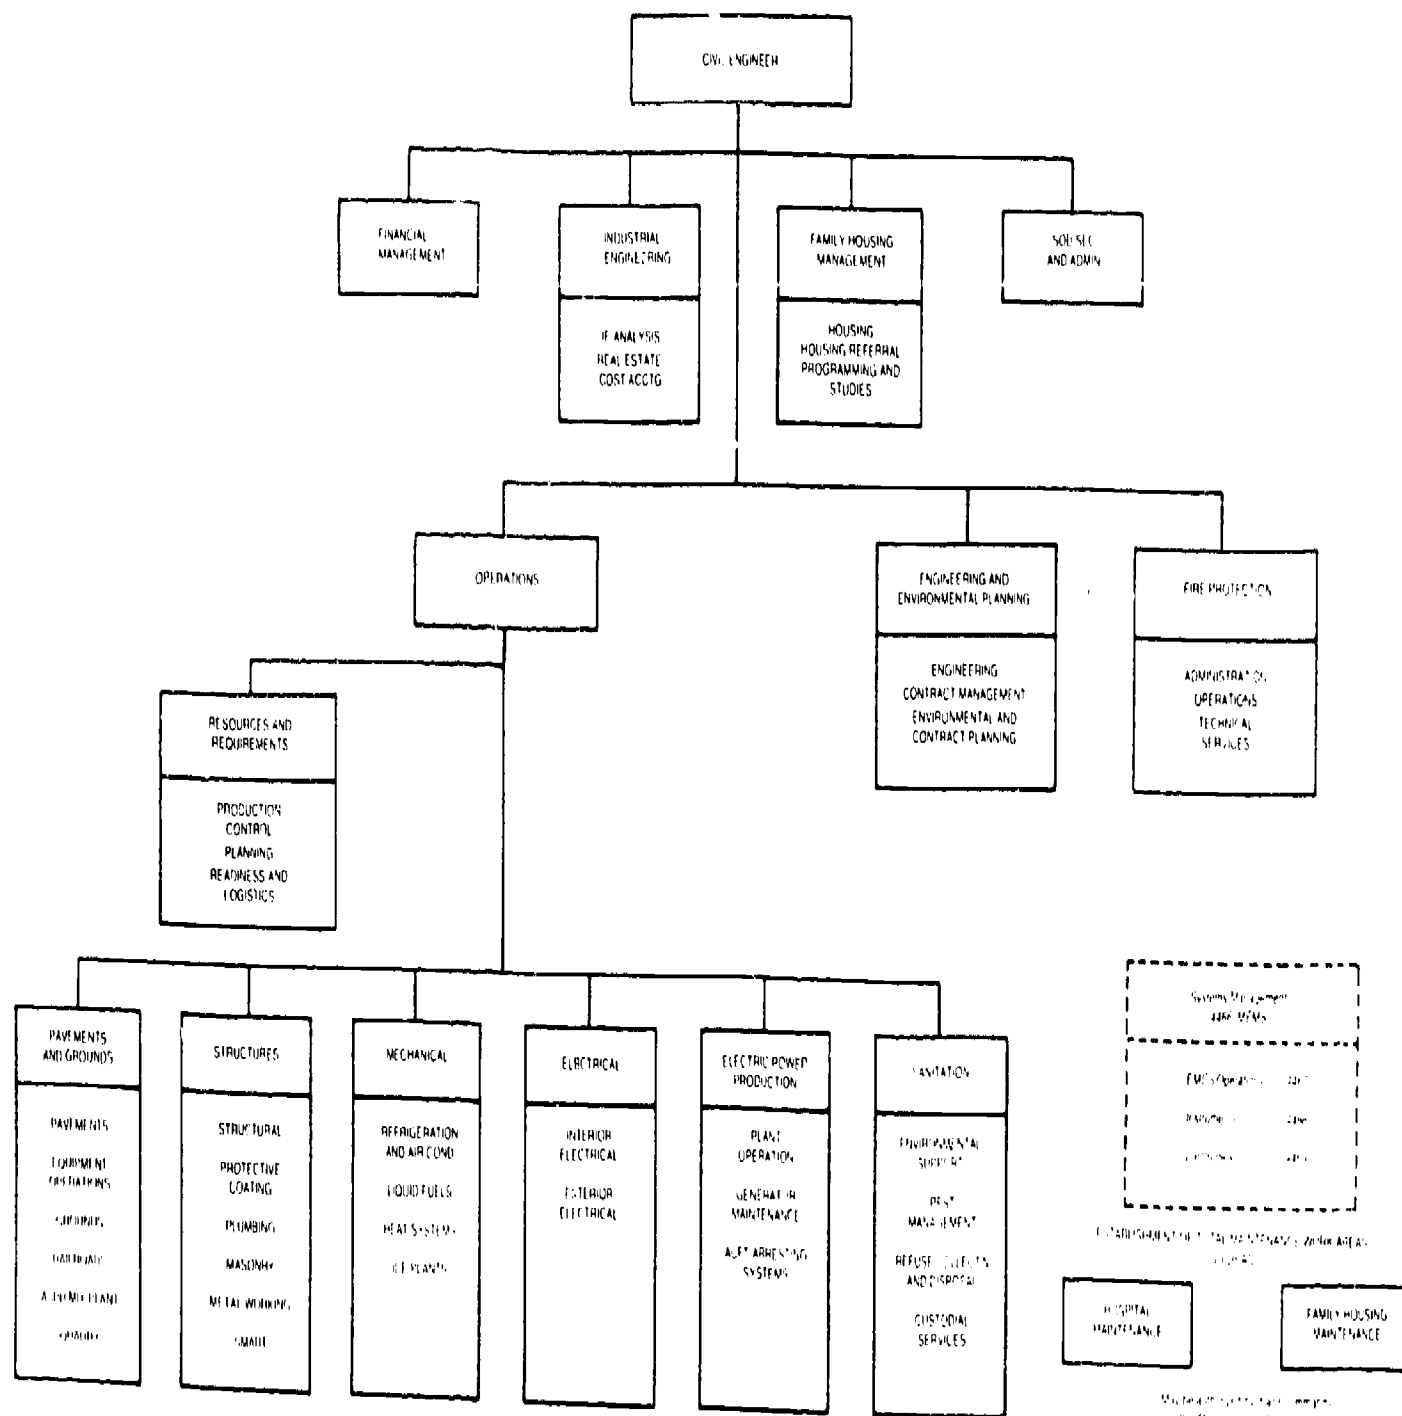

Figure 1-1. Base Civil Engineering Organization Chart.
Civil Engineering Organizational Chart. Figure 1-1 shows the structure of CE. Study the chart in order to learn the levels of command throughout the organization. At the very top of the chain of command is the base civil engineer. He or she is ultimately responsible for anything that goes wrong in CE.
As President Truman said, "The buck stops here." Passing the buck in CE will eventually stop at the BCE. You well know that an Air Force person should go through the chain of command. If you skip a link in the chain, things start to go wrong. As another saying goes, a chain is no stronger than its weakest link. The lines on the chart in figure 1-1 represent the chain in the CE structure. The blocks represent an office, shop, or unit in which a manager or supervisor is in control. Spot the pest management block on the chart. Notice that it is at the same level as pavements, protective coating, and heat systems blocks. The chain of command line for pest management and environmental support goes through the sanitation block. As you will see later in the career field chart, the sanitation superintendent is in control of all the units below him. The protective coating and plumbing blocks are under the command of structures as is masonry and metalworking.
As you follow the command line upwards, you see that the next command in the chain is operations. The chief of operations is the boss of the sanitation superintendent. From operations the command line goes up the chain to the civil engineer. As you can see from figure 1-1, the BCE holds the chief of operations responsible for all the CE shops. Work control is not in a direct command line to the shops. It works in a staff function to help the operations chief. From this example, you should be able to trace the command line through the various units. See if you can.
1. Refer to figure 1-1 and answer the following questions for each of the CE units listed. What is the command block immediately above the listed unit?
Functions and Responsibilities of CE Units. As we look into these individual sections, refer to figure 1-1 to help you understand their mutual relationships.